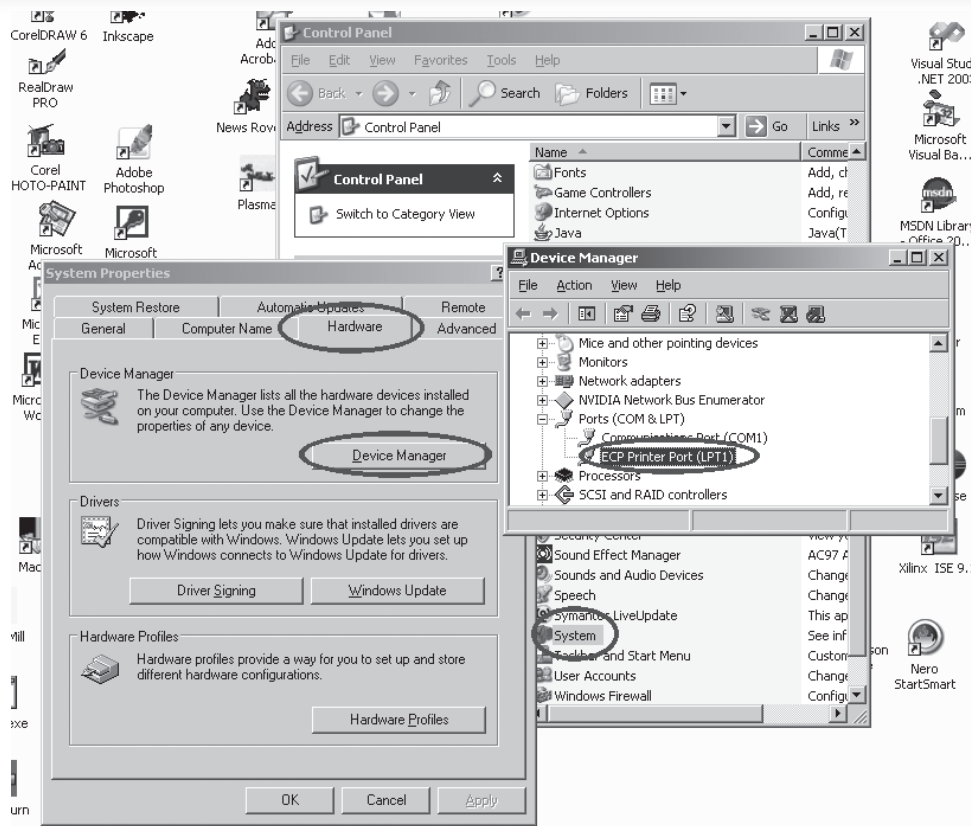

Figure 9.12: Finding Printer Port
6. Find the “Ports (COM & LPT)” icon and click on the plus sign (figure 9.12 shows the result of these steps).